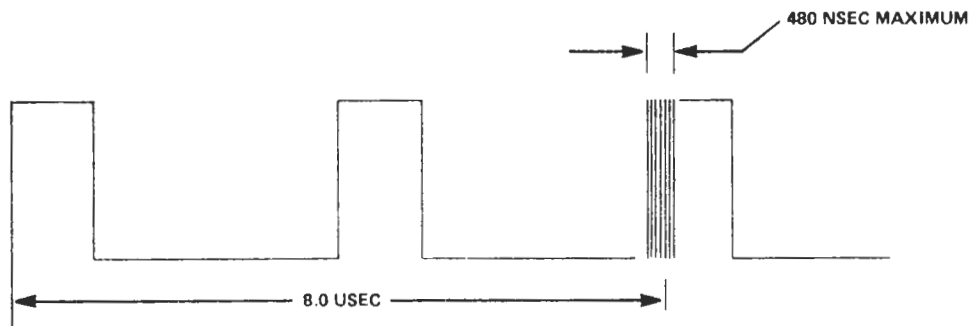

Figure 2-3
2.1.2.4 Observe the following pattern (see Figure 2-3).
- 2.1.2.5 Measure the amount of jitter present on the leading edge of the third pulse (see Figure 2-3). The leading edge of the third pulse should start  $8 \text{ usec} \pm 240 \text{ nsec}$  from the trigger pulse. Jitter on the third pulse of greater than  $\pm 240 \text{ nsec}$  (480 nsec edge-to-edge) indicates excessive ISV.